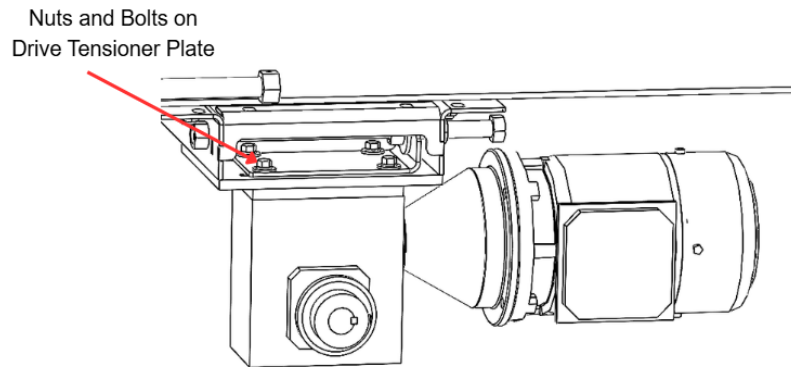
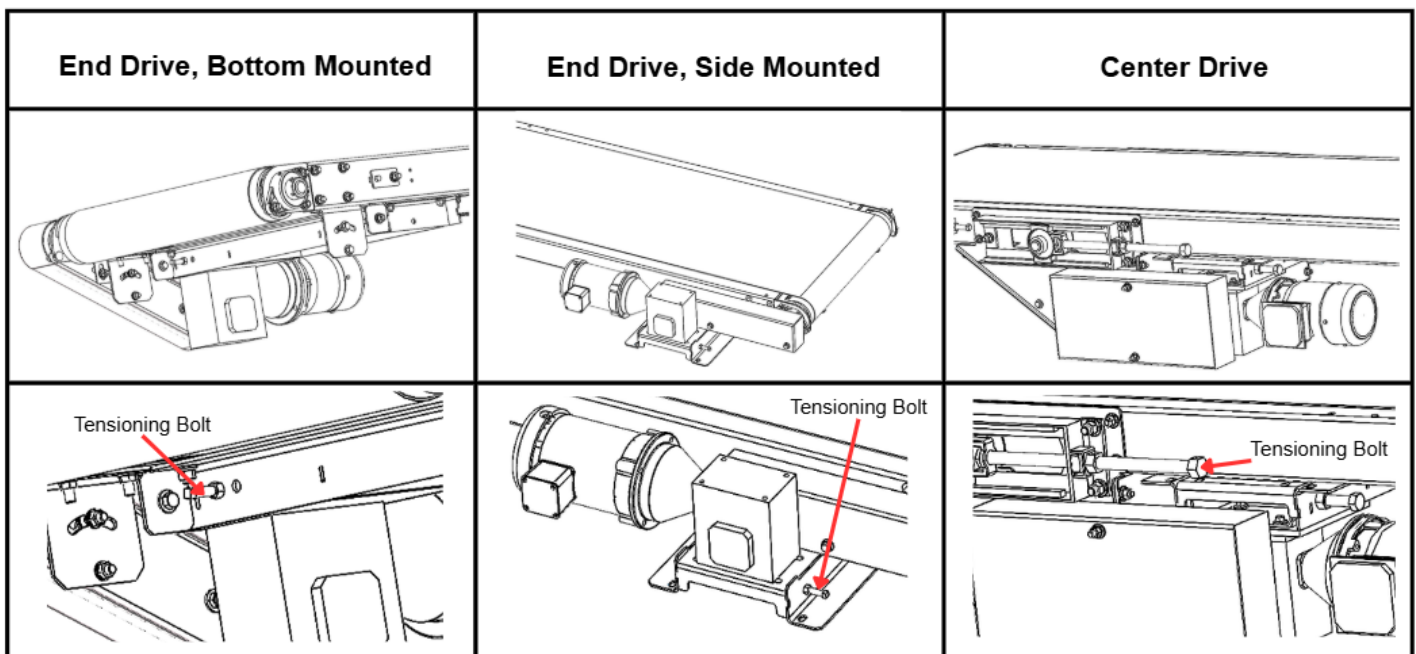

Figure 3.3 – Nuts and Bolts on Drive Tensioner Plate
Figure 3.4 - Tensioning Bolt
- A loose chain can jump the drive sprockets and can cause sprocket wear and failure. A tight chain requires excessive motor power and can cause chain and sprocket failure. Adjust drive tension by first loosening the (4) nuts and bolts on the drive tensioner plate shown in *Figure 3.3*, then turning the tensioning bolt shown in *Figure 3.4*. Retighten the (4) nuts and bolts once proper tension is achieved.